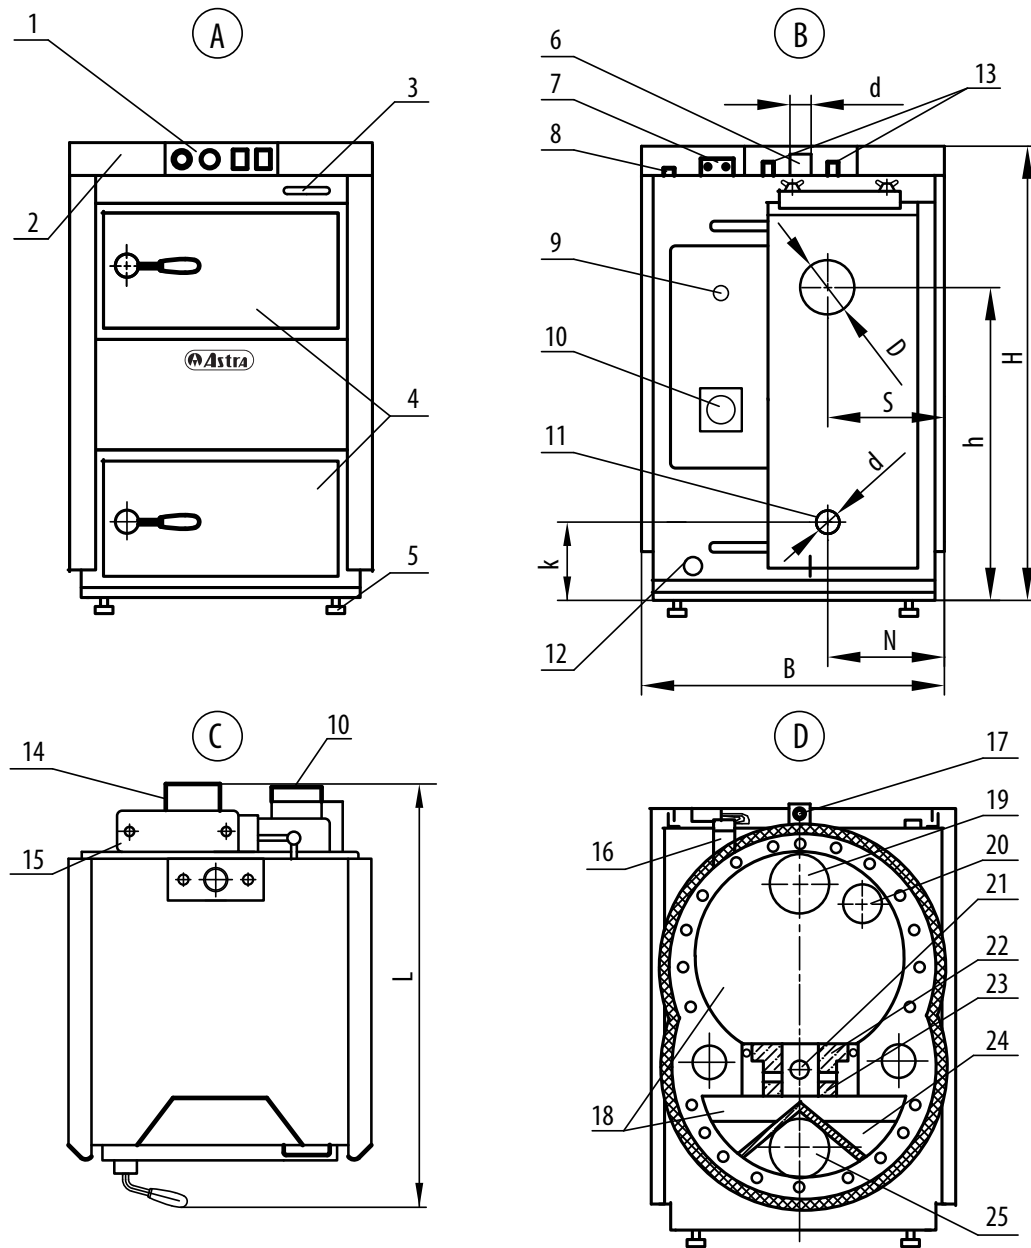

Fig. 1 General view of the boiler
- The boiler is connected to the heating system through connection pipes 6 – water supplied to the heating system and 11 – water returning from the heating system (Fig. 1);